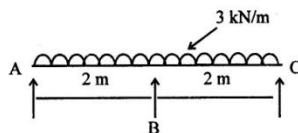

Figure -1.
3. A beam ABC of length 4 m rests on three supports equally spaced and is loaded with UDL of 3 kN/m throughout the length of the beam as shown in figure -1. Plot the B.M and S.F diagrams. (12)